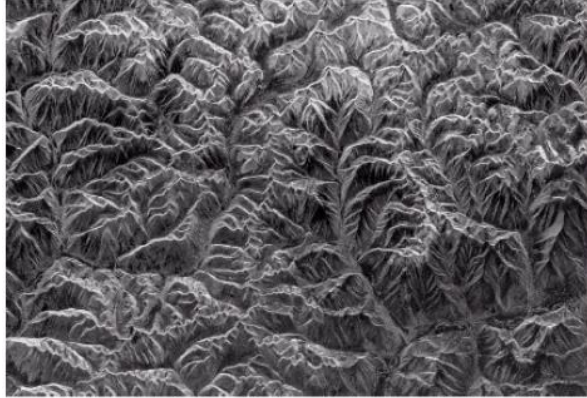

Figure11: Space borne RADAR image of mountains in southeast Tibet
6. Microwave Imaging: (Figure11)